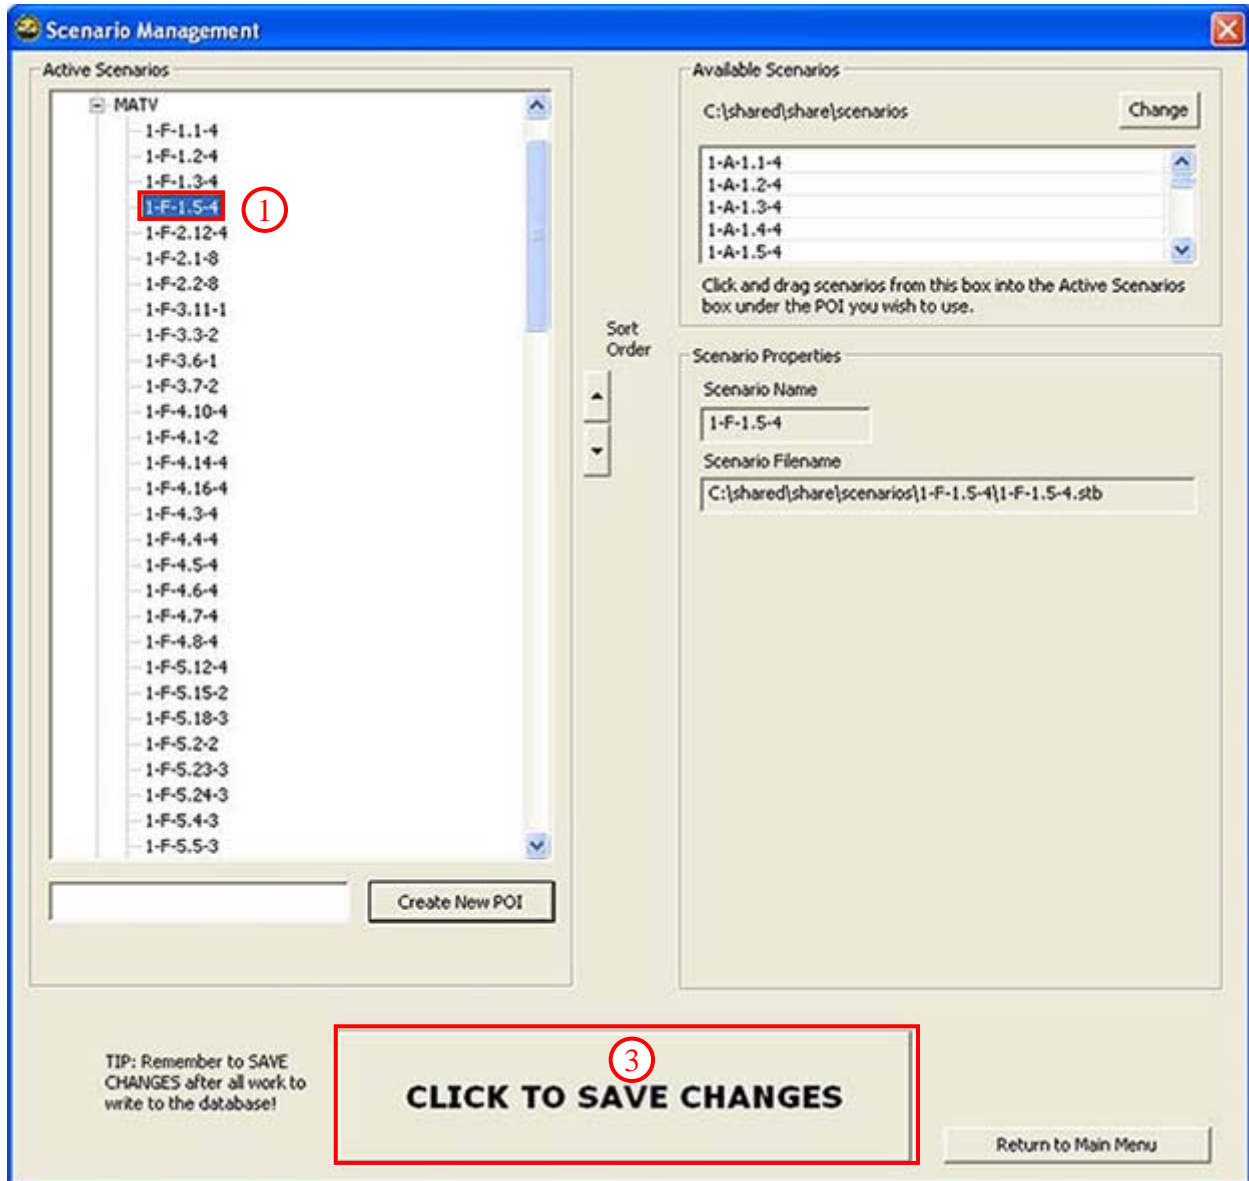

Figure 77. Scenario Management - Delete Scenario
1. Select a scenario within the list (Figure 77).